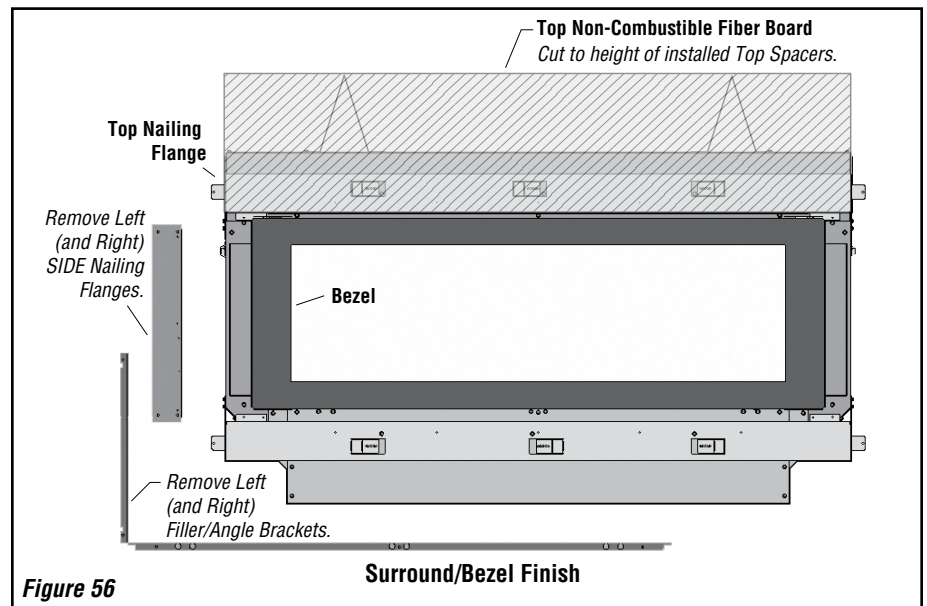

Figure 56
- LEFT/RIGHT SIDE NAILING FLANGES:** REMOVE the LEFT and RIGHT SIDE Nailing Flanges (see **Figure 56**), and discard using appropriate disposal methods.
- LEFT/RIGHT FILLER/ANGLE BRACKETS:** REMOVE the two Filler/Angle Brackets (see **Figure 56**), and discard using appropriate disposal methods.
- NON-COMBUSTIBLE FIBER BOARD:** See **Figures 56 (this page) and 57 (next page)**. Attach the TOP Non-Combustible Fiber Board to the TOP Nailing Flange, and secure using field-supplied screws. Discard the two smaller SIDE Non-Combustible Fiber Boards (not used with Surround).
***For painted wall finish, use two (2) coats of quality primer and high-temperature paint on provided Fiber Board.**
- SURROUND:** Attach the Surround, and secure using the nine (9) screws provided with the Surround Kit (**Figure 56**).